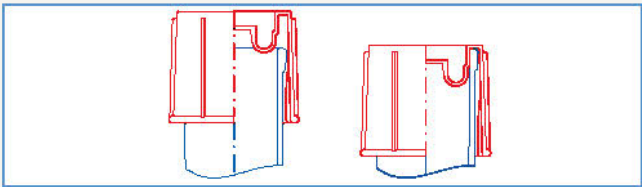

Figure 1:
- Two-position vent stopper fulfils two functions (Fig. 1):